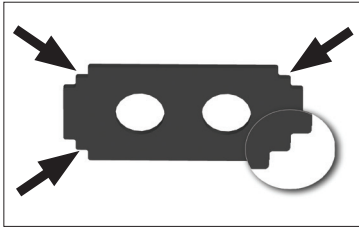
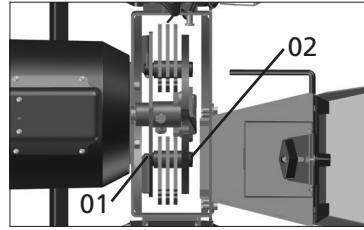

Fig. 17
Fig. 18
The shredding moveable hammers have teeth on all 4 sides [Fig. 17, page 26]. Change the usage position whenever you detect wear and change the hammers whenever all four sides are worn out. To alter the usage side remove the lock pins from the axis (1) and remove the released axis (2) through the funnel for green products the models TRE30, TRE40MA, TR40 and TRE40. Then change the operating face of the hammers [Fig. 18, page 26]. If you remove one of the lock pins (1), please do not reuse it. Instead, replace it with a new lock pin to prevent accidents.